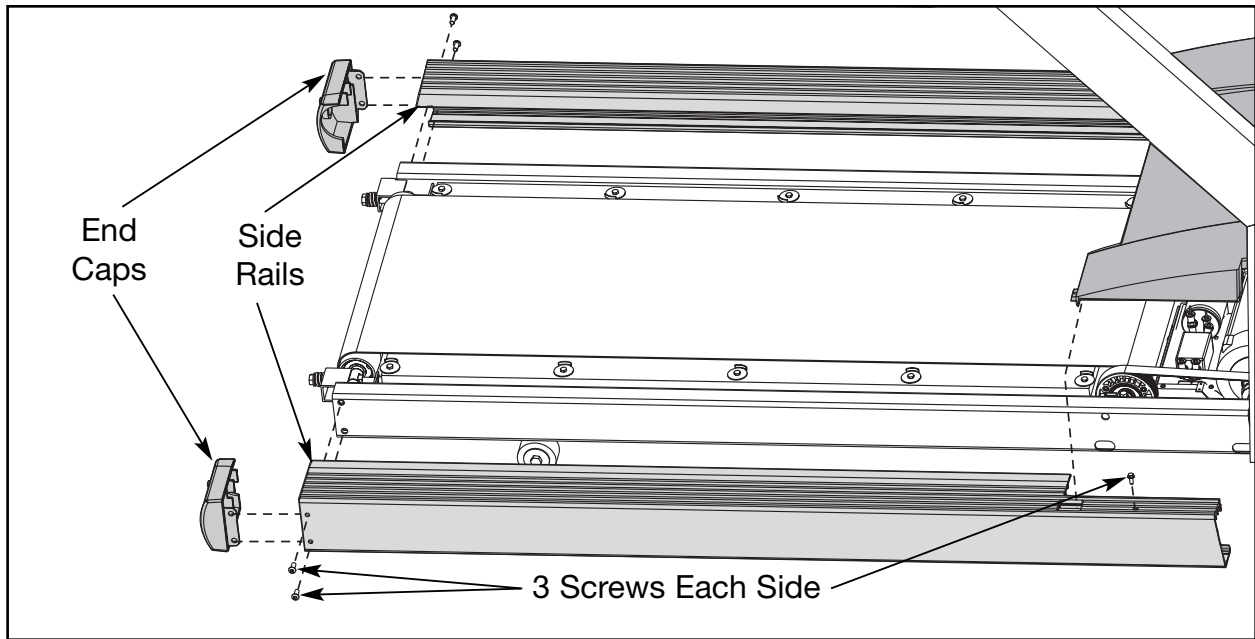

Figure 2
- A. Using a flat head screw driver, remove the hex head screw on the top of each side rail toward the front of the treadmill. See Figure 2.
- B. Use a 3/16" Allen wrench to remove the two button head screws that fasten each side rail to the frame. See Figure 2. Set the end caps aside.
- B. Using a flat head screwdriver, attach the hex head screw on the top of each side rail toward the front of the treadmill. See Figure 2.
- C. Place the end cap flush with the end of the side rail and the end of the frame. Use a 3/16" Allen wrench to attach the two button head screws that fasten each side rail to the frame. See Figure 2.